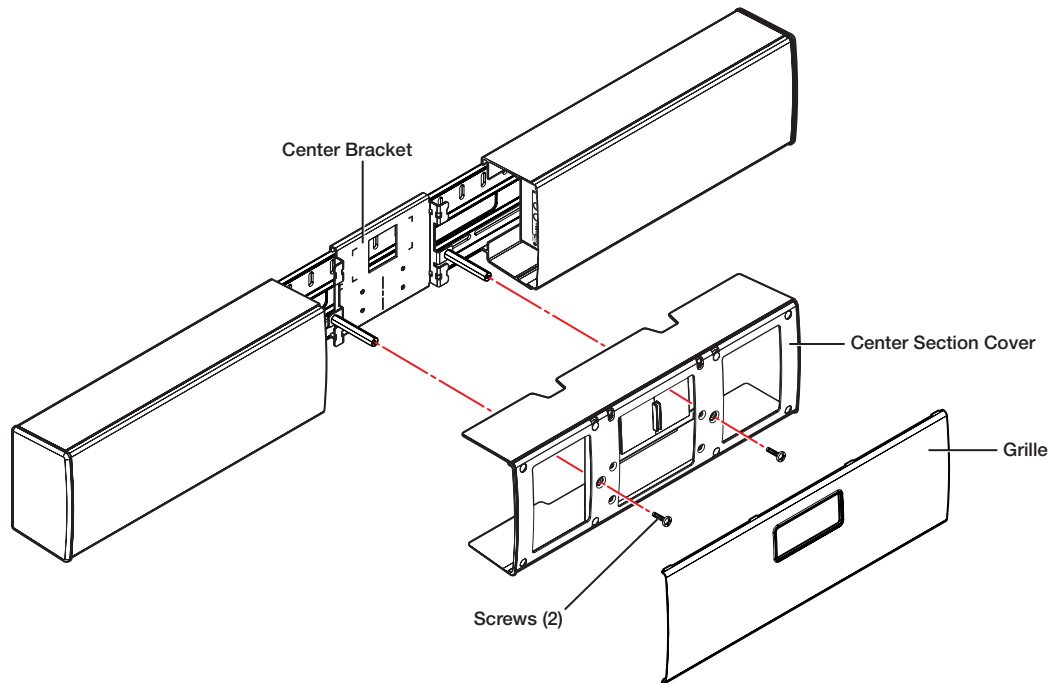

Figure 22. Attaching the Center Section Cover and Grille
2. Attach the grille to the center section cover. Six magnets hold the grille in place (see figure 22).